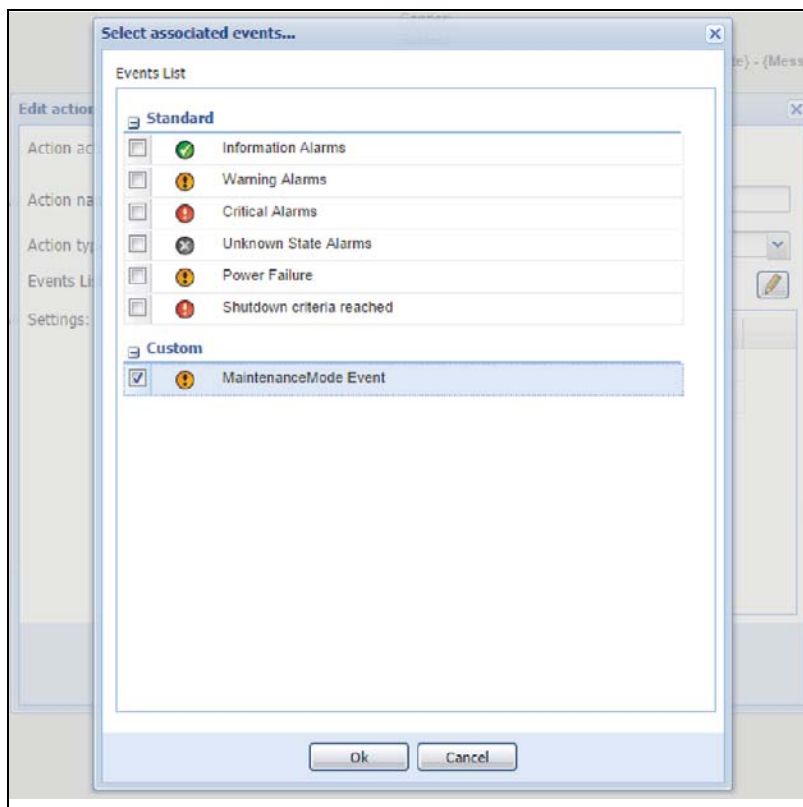

Figure 247. Events List for Select Associated Even
8. From the Select associated events pop-up, check the Custom box for MaintenanceMode Event. Click **Ok** (see Figure 247).